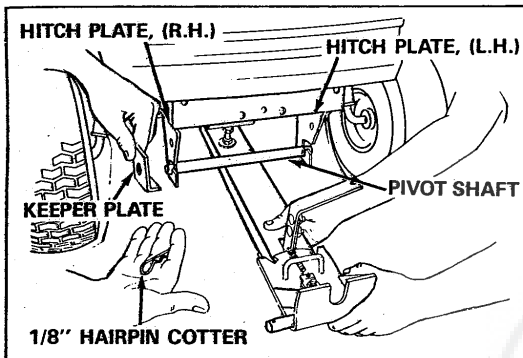

FIGURE 7
4. Assemble keeper plates over each end of pivot shaft with lip under hitch plates (see figure 7) and secure with two 1/8" (large) hairpin cotters through small holes near each end of shaft.